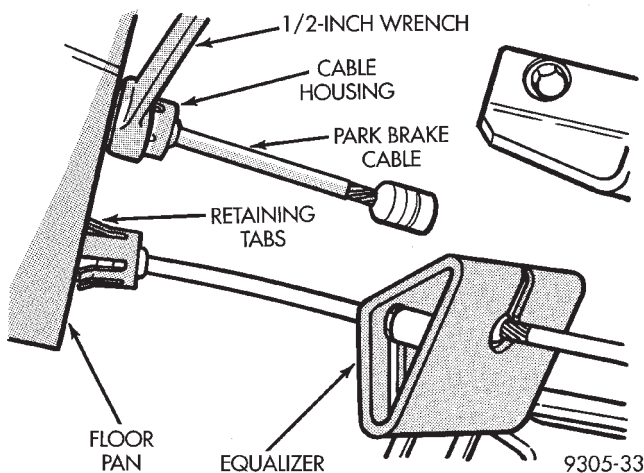

Fig. 140 Park Brake Cable Removal From FloorPan
(16) Remove rear park brake cable from vehicle floor pan using the following procedure. Disconnect rear park brake cable requiring replacement from equalizer (Fig. 140). Slip the box end of a 1/2 inch over end of park brake cable (Fig. 140). This will compress retaining tabs on end of park brake cable housing. Using a screw driver, press on end of park brake cable housing to remove cable from floor pan of vehicle.